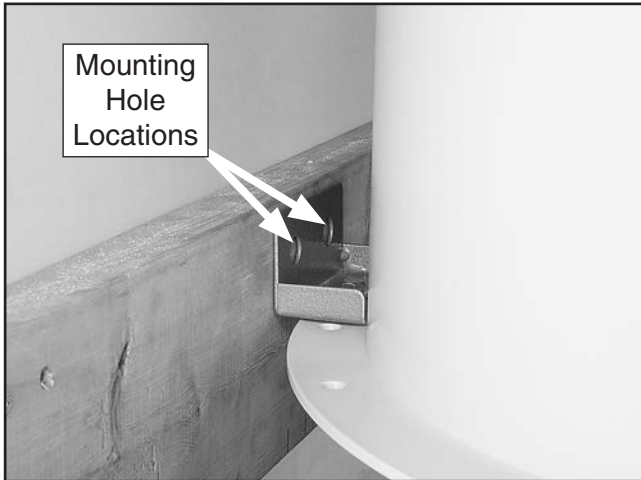

Figure 10. Intake barrel brace positioned to mark mounting holes.
- Place remaining wall mounting bracket in position and mark location of mounting holes (shown in **Figure 10**) with small pencil, nail, or push pin.